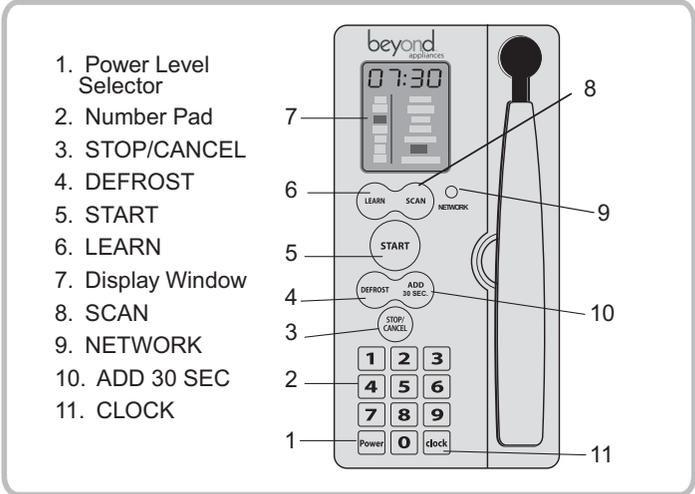

FIGURE 3. Microwave Control Panel
The control panel is shown in Figure 3, below. Control panel push buttons and features are described in Table 1, immediately following.
- Please refer to Figure 3, for an illustration of the control panel.